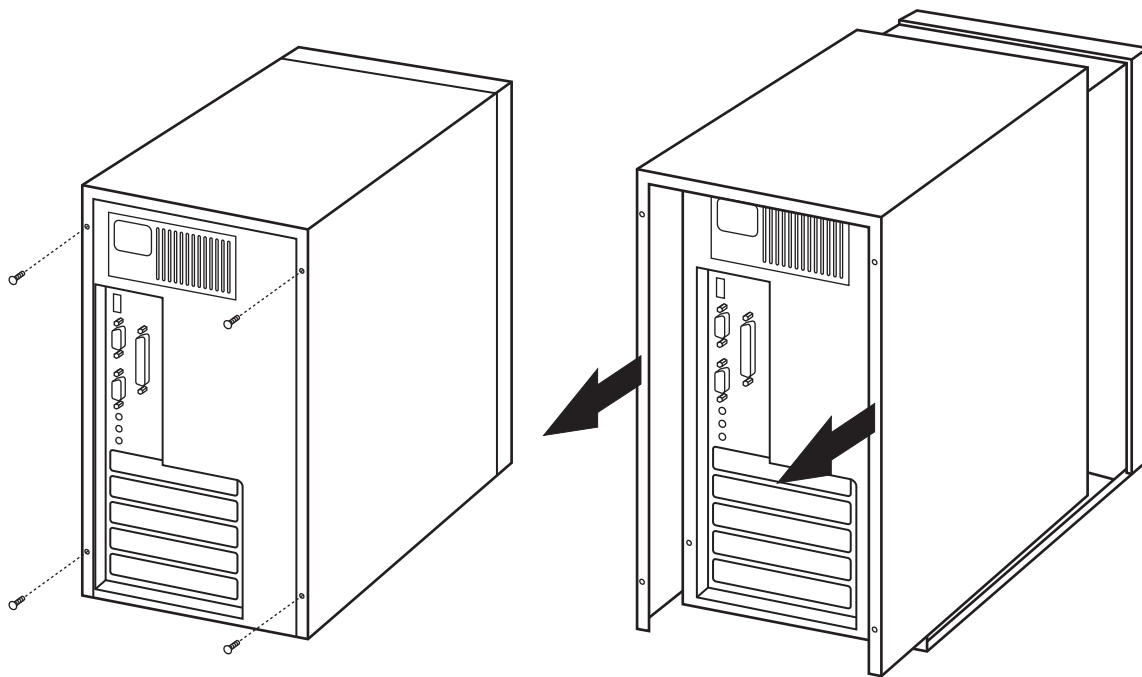

Figure 3-1. Removing the PC cover.
2. Remove the PC cover and select any empty PCI 32-/64-bit slot. See Figure 3-1. If you do not know how to identify a PCI 32-/64-bit slot, refer to your PC documentation.